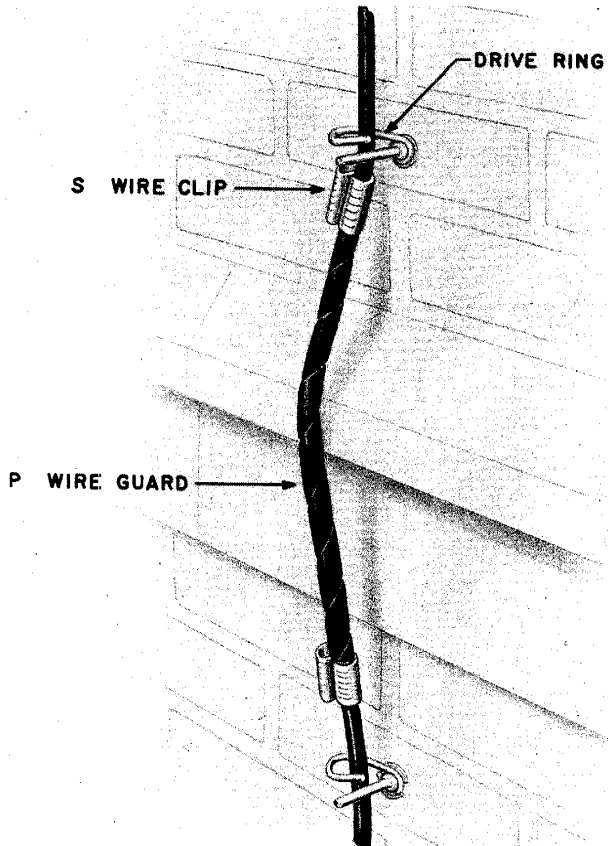

Fig. 5 — Crossing Masonry Building Projection
5.04 Fig. 5 through 12 are typical examples of wiring requiring protection.